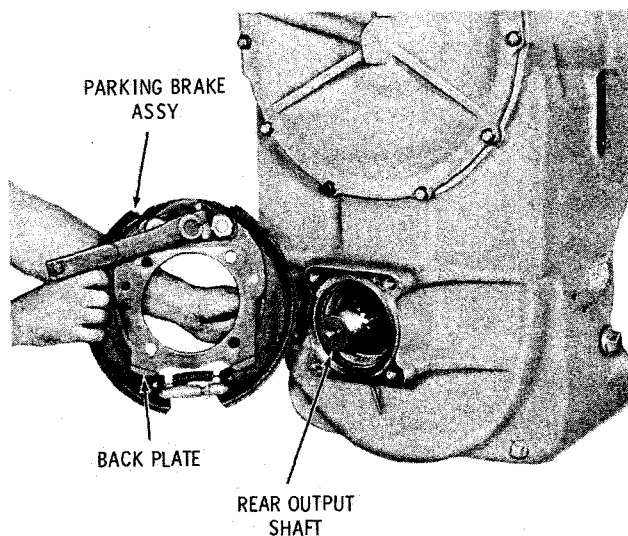
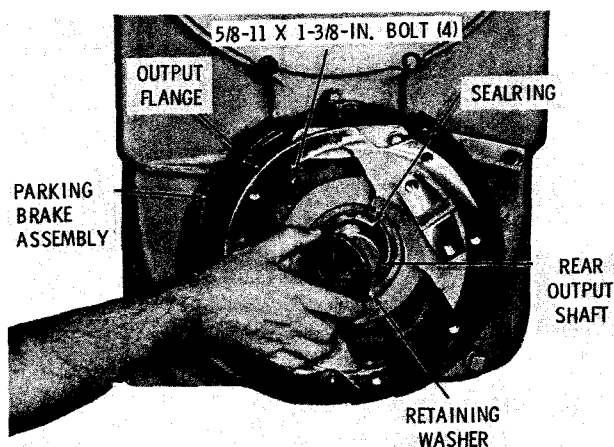

Fig. 7-40. Installing parking brake assembly
Fig. 7-41. Installing flange retaining washer
(2) Install flange spacer 26 (A, foldout 7) onto the rear output shaft (fig. 7-40). Install the parking brake assembly (fig. 7-41).
(3) Attach the parking brake to the housing with four 5/8-11 x 1-3/8-inch bolts and internal-tooth washers (fig. 7-41). Tighten the bolts to 164-192 lb ft (223-260 N·m). Refer to paragraph 4-7 and install the output flange onto the rear output shaft.
(4) Install the shaft sealing, making sure that it is well seated in the cavity between the shaft and the flange (fig. 7-41). Install the flange retaining washer. Apply a